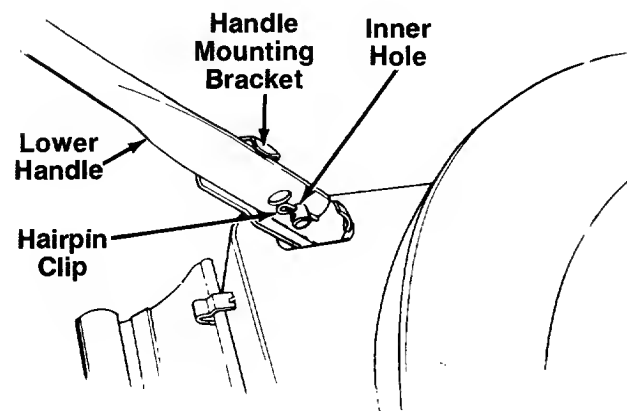

FIGURE 2.
2. Using a pair of pliers, squeeze one leg of the lower handle against the handle mounting bracket. Insert the hairpin clip into the inner hole on the weld pin. See figure 2. Repeat on other side.